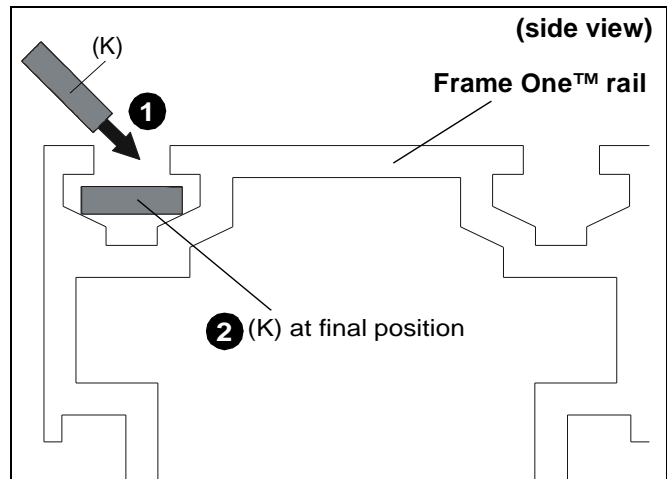

Figure 7
1. Drop channel plate (K) at an angle into front groove of Frame One™ rail. (See Figure 7)
2. Make sure channel plate (L) lays flat in rail and slide plate until it is at desired mounting position. (See Figure 7)